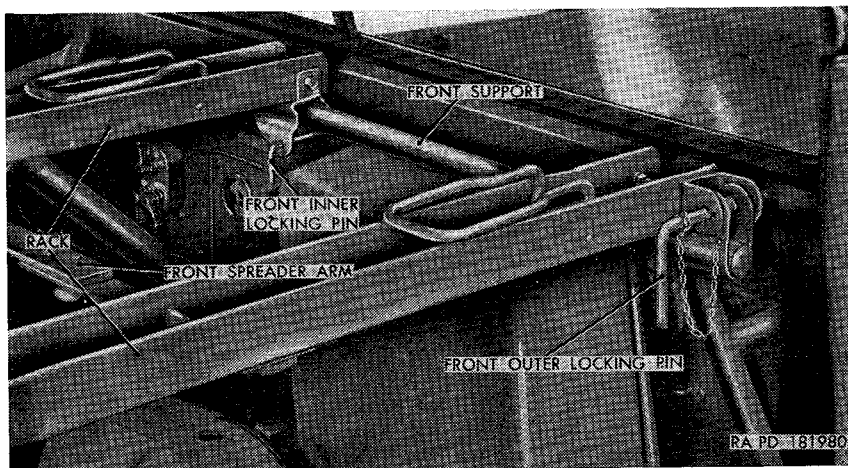
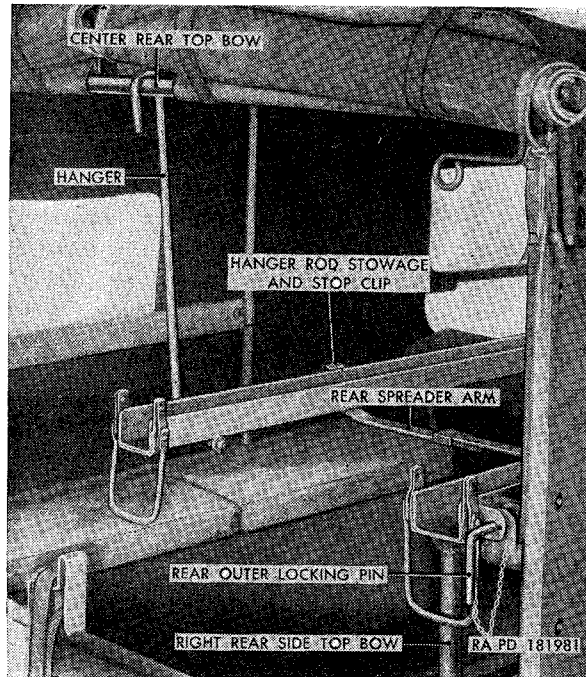

Figure 199. Upper litter rack front connections.
Figure 200. Upper litter rack rear connections.
- (1) *Removal.* Working in the driver's compartment, withdraw the upper litter rack front inner locking pin (fig. 199) from the hole in the bracket front side on the upper litter rack underside to unlock the rack inner side from the upper litter front support. Withdraw the upper litter rack front outer locking pin from the bracket on the rack front outer side and the bracket on the front support to unlock the rack outer side from the front support. Push the middle of the upper litter rack front spreader arm forward to unlock it. Pull the rack inner side toward the outside of the vehicle until it is up against the rack outer side. Working at the rear of the vehicle, withdraw the upper litter rack rear outer locking pin (fig. 200) from the bracket on the rack outer side and the support bracket on the right rear side top bow. Push the middle of the upper litter rack rear spreader arm to the rear to unlock it. Slide the rack inner side toward the outside of the vehicle until it is up against the rack outer side. Unhook the upper litter rack hanger from the center rear top bow. Remove the rack from within the vehicle.
- (2) *Installation.* Position the upper litter rack within the vehicle so that rack front end rests on the upper litter front
support and the rear of the inner side rests on the support of the right rear side top bow. Hook the upper litter rack hanger (fig. 200) over the center rear top bow. Lock the rack inner side to the support bracket on the rear side top bow by inserting the upper litter rack rear outer locking pin through the support bracket and the bracket on the rack outer side. Working in the driver's compartment, lock the rack outer side to the upper litter front support, by inserting the upper litter rack front outer locking pin (fig. 199) through the bracket on the rack front outer side and the bracket on the support. Lock the rack inner side to the support by inserting the upper litter rack front inner locking pin through the front side of the bracket on the rack underside. Push the rack inner side toward the center of the vehicle. Lock the rack in extended position by locking the upper litter rack front and rear spreader arms.